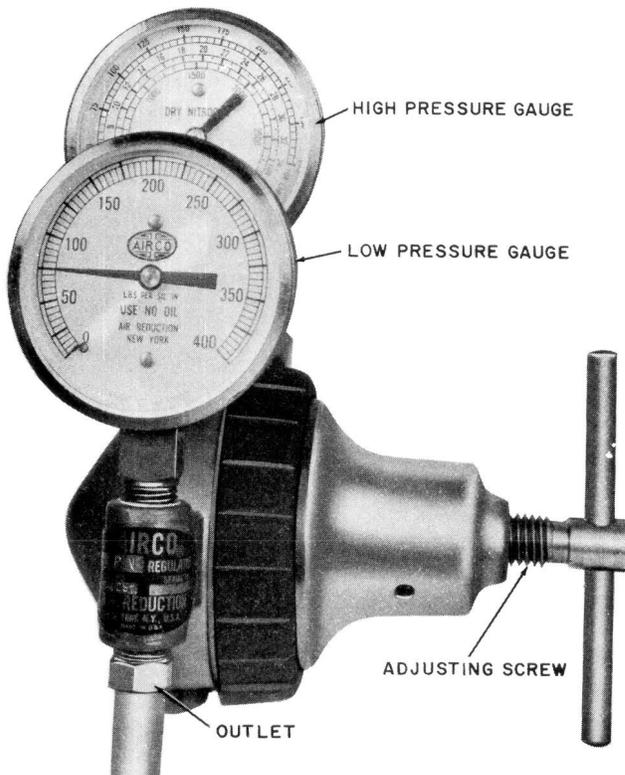

Fig. 3—C Gas Regulator
3.03 While the presser is being used, the regulator low pressure gauge (outlet side) should be set at 75 psi. Do this by turning the regulator adjusting screw clockwise with the cylinder valve open and delivering pressure to the presser. Check the pressure occasionally and readjust the regulator adjusting screw as required (Fig. 3).